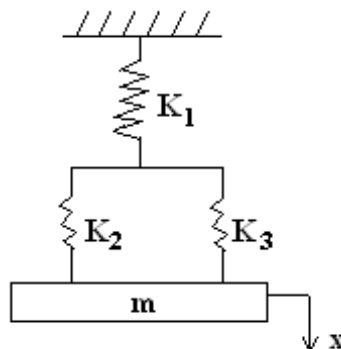

Figure 7
7. A mass is suspended from a spring system as shown in figure 7 Determine the natural frequency of the system. Take  $k_1 = 5000\text{N/m}$ ,  $k_2 = k_3 = 8000 \text{ N/m}$ ,  $m = 25 \text{ kg}$ . [16]